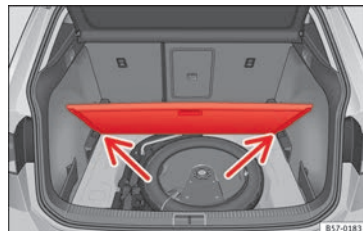

Fig. 170 Luggage compartment variable floor: sloped position.
- Rest the floor on its housings » Fig. 170 (arrows).